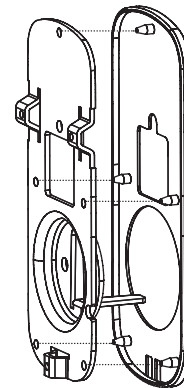

Figure 3A
- a. Ensure that gasket on Inside Mounting Plate is properly fitted. Note the positioning of the gasket's five rubber nubs (Figure 3A).